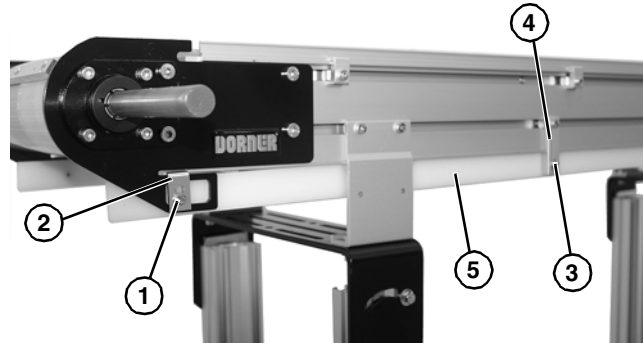
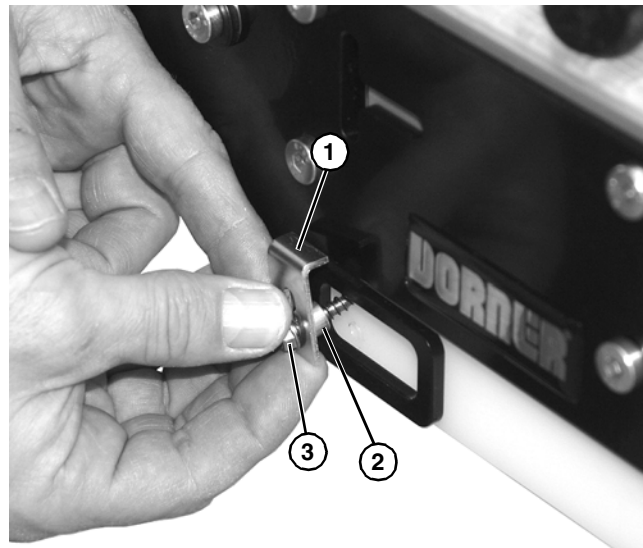

Figure 48
Figure 49
2. Remove screw (**Figure 48, item 1**), clip (**Figure 48, item 2**), and spacer.
3. Remove screw(s) (**Figure 48, item 3**) from each retaining clip (**Figure 48, item 4**), and remove lower wear strip (**Figure 48, item 5**).
5. Install new wear strip (**Figure 48, item 5**) and secure with retaining clips (**Figure 48, item 4**).
6. Install sag guard plate (**Figure 49, item 1**) with spacer (**Figure 49, item 2**) and screw (**Figure 49, item 3**).
7. Adjust wear strip up or down as needed on slotted holes in sag guard plate (**Figure 49, item 1**) and retaining clip (**Figure 48, item 4**), and secure with screws (**Figure 49, item 3**).